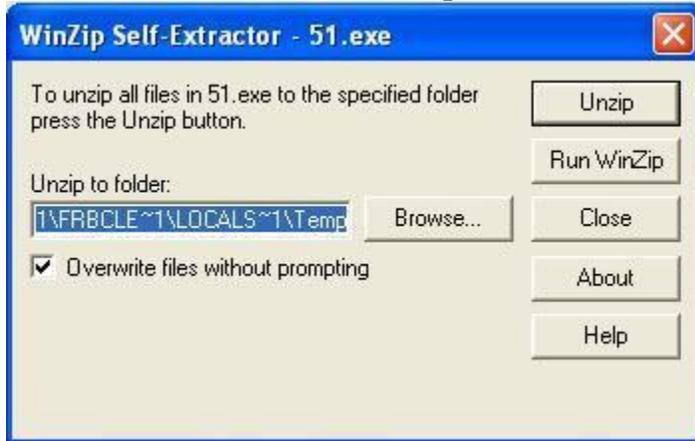

Figure 2.4.7
- The Winzip self-extractor archive window opens. (Figure 2.4.7) Specify a file location if different from the default and click **'Unzip'**.